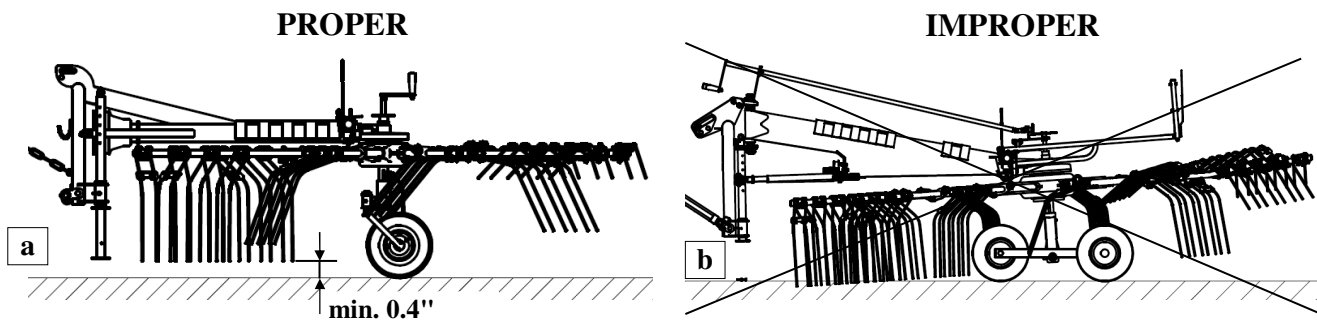
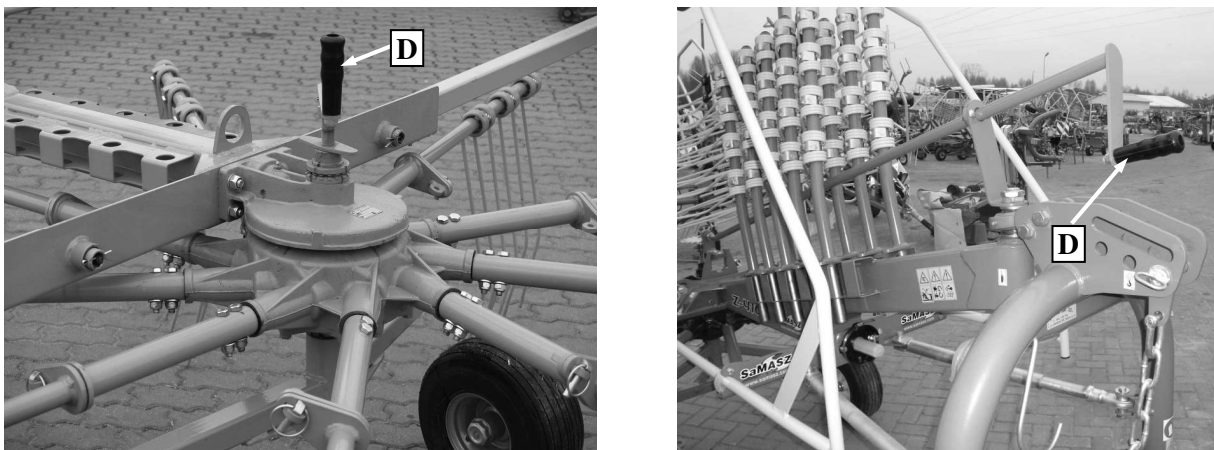

Fig. 21. Rakes in working position – a) proper; b) improper
Fig. 22. Working height adjustment lever
- using lever (D) (Fig. 22) either lower or lift it to set a required raking height; raking tines should be set vertically in relation to the ground, not touching the ground however (Fig. 21).